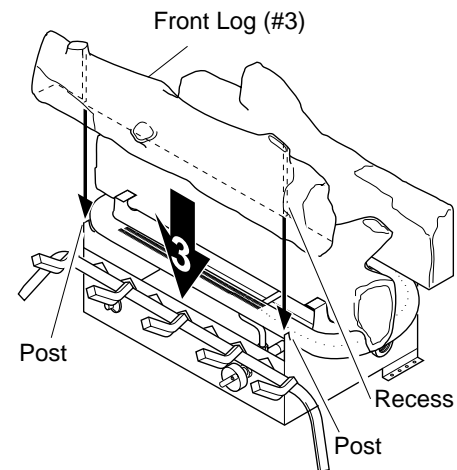

Figure 20 - Installing Front Log (#3)
3. Locate the recesses on the back of the front log (#3). Fit these recesses between the posts of the grate base (see Figure 20).